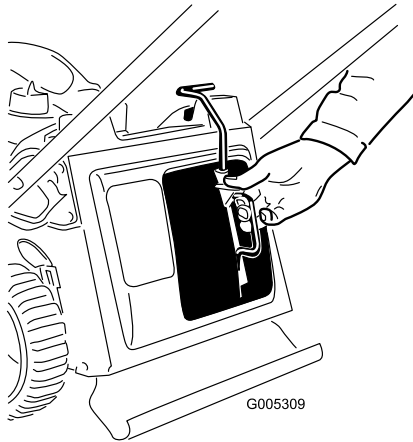

Figure 23
1. Remove the mulch plug (Figure 23).